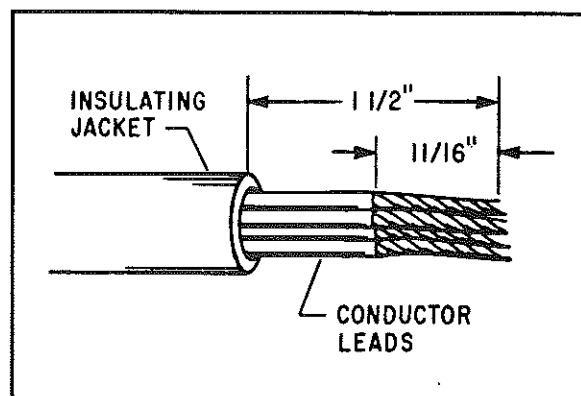

Figure 3.3 Stripping compressor input-power cable insulation
1. Prepare the input power cable by stripping wires and jacket of the cable as shown in Figure 3.3.